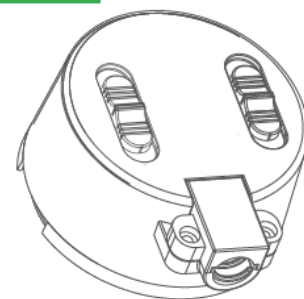

Fig. 4
5. Adjust the fixture power to desired lumen output by sliding the selector switch on the right. Adjust the color temperature to desired one, by sliding the selector switch on the left. (Fig. 4)
5. Install the down light by lifting both retention tabs upward. (Fig. 4)